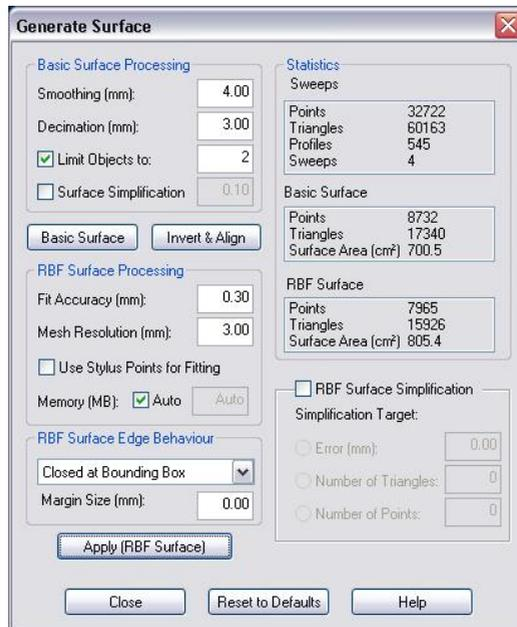

Figure 10: The Generate Surface dialog box with the **Invert & Align** button active.
2. Select the **Form Surface** tab and click on **Advanced** (or Ctrl+G) to bring up the **Generate Surface** dialog box (Figure 10). Enter the desired settings and click **Apply (Basic Surface)**.